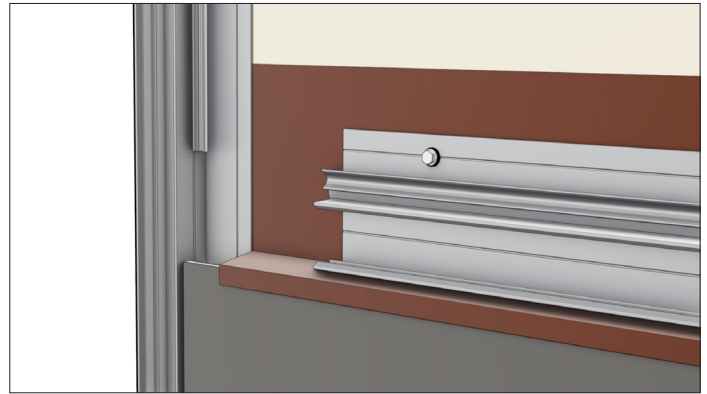

Figure 23.1
24. Cut 2" notches in the panel platforms of the Q03B Vertical back plate where the Q03B Horizontal Trims meet at 90 degrees. The notch is needed to accommodate greater overlap of top cap tabs for maximum Fit&Finish™. (Figure 23.1)